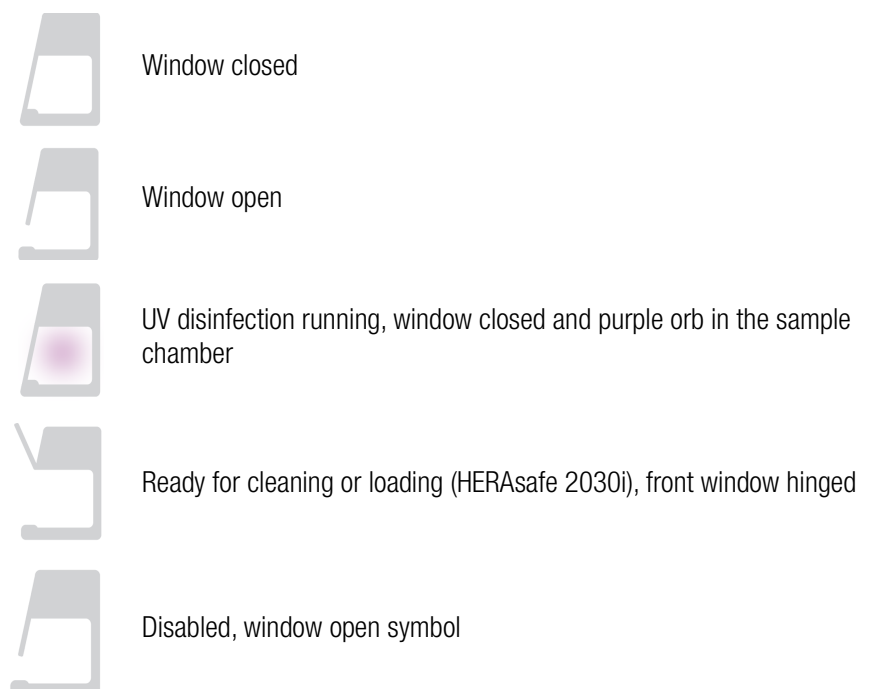

Figure 23 Main Screen
Figure 23 shows the unit in working mode, with the window ready in the working position and the downflow and inflow speeds at operational speeds. The sample space illumination, blowers, gas supply and power receptacle functions are all on.
- in working mode, as shown in Figure 23 above